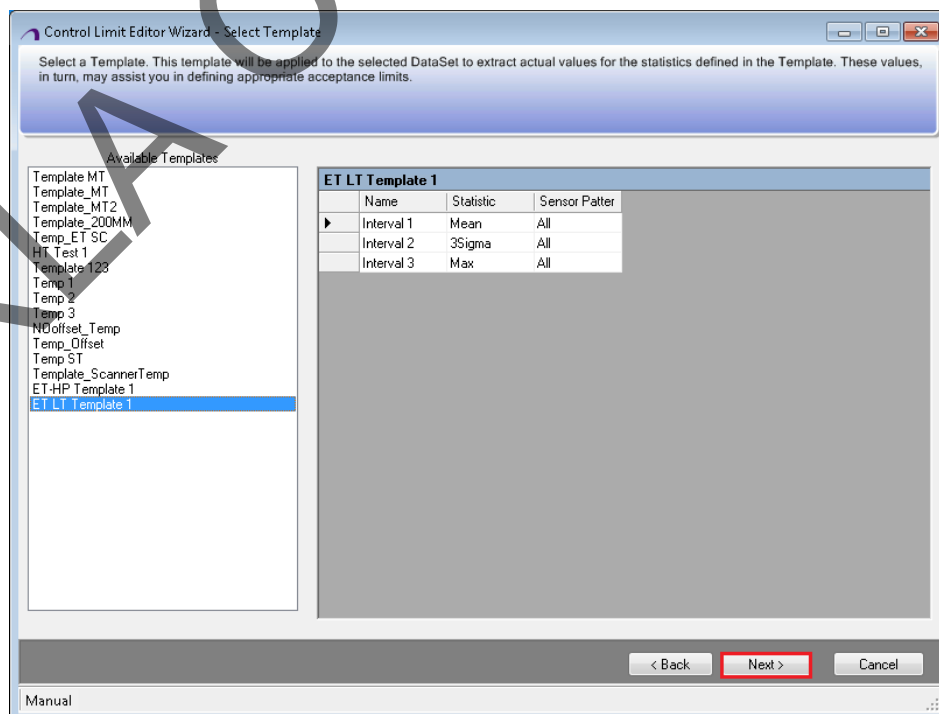

Figure 6-6 Control Limit Editor Wizard - Select Template Window
3. You can see the **Control Limit Editor Wizard - Select Template** window opens, as shown in Figure 6-6.